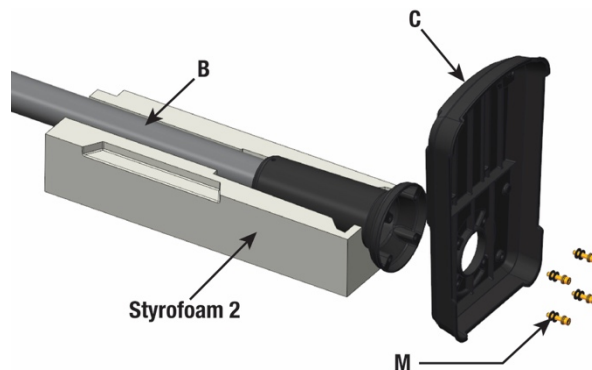

Figure 6-4: Mounting Base
2. Lay the column assembly down on Styrofoam section 2 as shown in Figure 6-4. Make sure the column base flange is hanging off, but near the edge of the Styrofoam.
3. Align the mounting holes in the base (C) with the mounting holes in the column base flange. Place one lock washer and one flat washer on each of four M10 x 45 socket head cap screws (M). Insert and tighten the four M10 x 45 socket head cap screws using an 8mm hex wrench. See Figure 6-4.